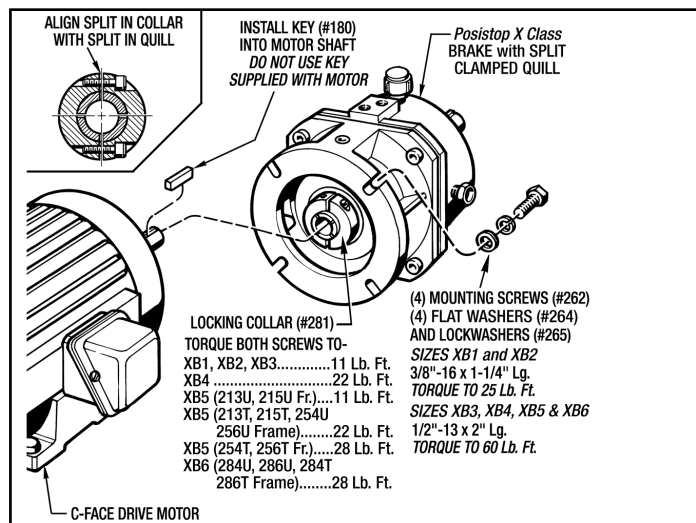

Figure 2 - Posistop X Class Brake Installation
B. MOUNTING THE BRAKE WITH SPLIT CLAMP QUILL TO THE DRIVE MOTOR (See *Figure 2*)
- Slip the *Posistop* Brake onto the motor shaft with the Key (#180) aligned with the keyway in the Input Shaft (#2) as shown in *Figure 2*. Push the Brake Unit until it seats firmly onto the motor pilot diameter.
- Attach the *Posistop* Brake with the (4) Hex Hd. Mounting Screws (#262) and (4) Lock Washers (#265). **Only finger tighten them at this time. Make sure the brake is snug up against the drive motor.**
- Torque the (2) Screws in the Locking Collar(#281) in an even manner to the correct torque as shown in *Figure 2*.
- Evenly torque the (4) Mounting Screws (#262) in an opposite manner to the specified torque as shown in *Figure 2*.